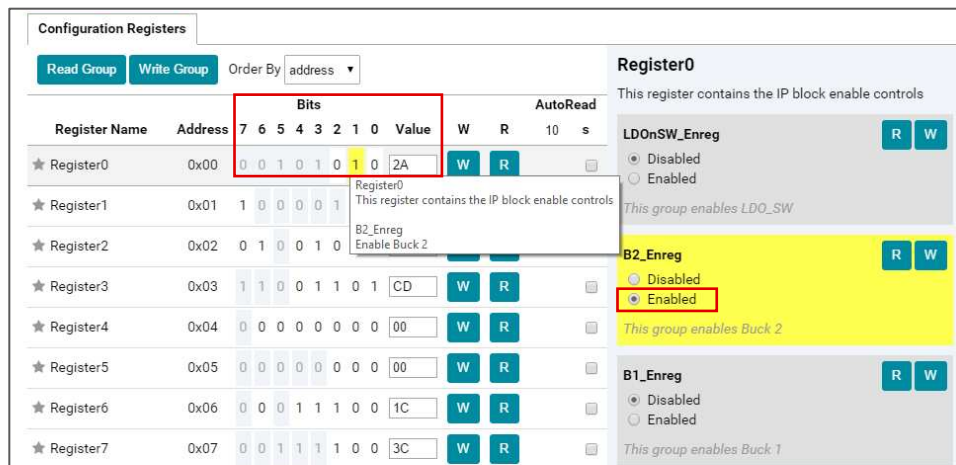

Figure 6. B2_Enreg is Enabled by Default in IPG-UI
- Hover the mouse over Bit 1 to verify that **B2_Enreg** is *Enabled*, as shown in Figure 6.